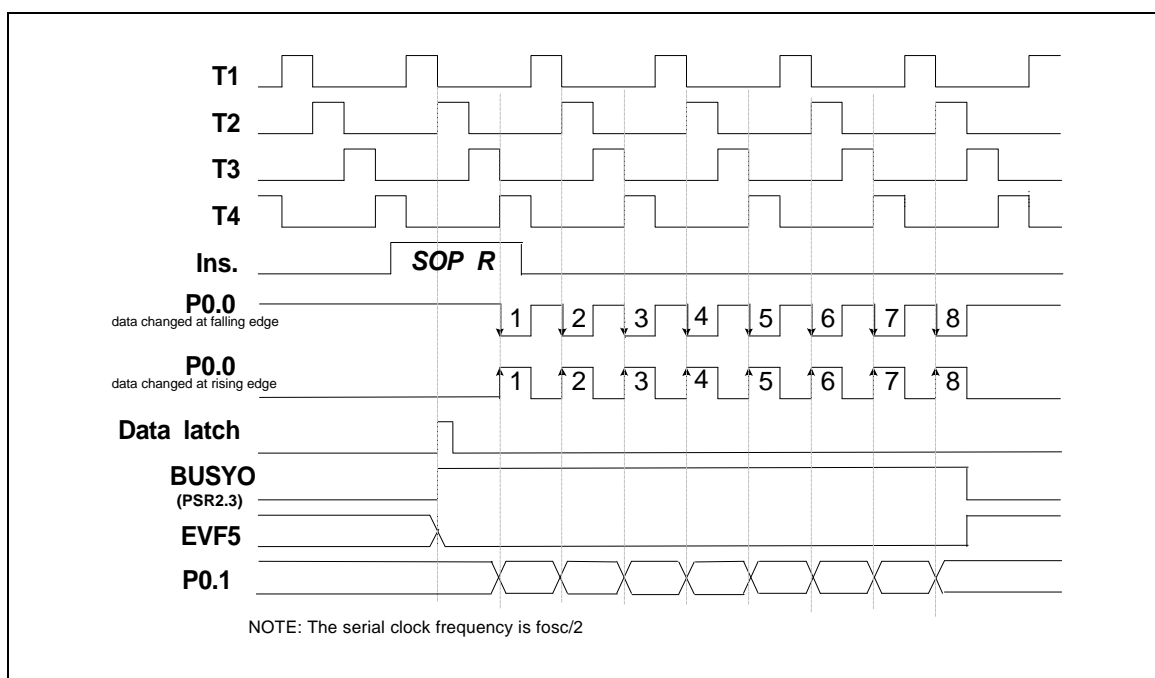

Figure 5-13 Timing of the Serial Output Function (SOP R)
- (2) When the **SOP R** instruction is executed, the data will be loaded to the serial output buffer (SOB) from ACC and the RAM, the low nibble data of SOB is from ACC register and the high nibble data is from RAM, and bit 3 of port status register 2(PSR2) will be set to "1" ( $BUSY_O = 1$ ). Then the P0.0 pin will send out 8 clocks or accept 8 clocks from external device and the data in SOB will be sent out at the rising or falling edge of the P0.1 pin. After the 8 clocks have been sent,  $BUSY_O$  will be reset to "0" and  $EVF.5$  will be set to "1." At this time, if  $IEF.5$  has been set ( $IEF.5 = 1$ ), an interrupt is executed; if  $HEF.5$  has been set ( $HEF.5 = 1$ ), the hold state is terminated. Users can check the status of PSR2.3 ( $BUSY_O$ ) to know whether the serial output process is completed or not. If a serial output process is not completed, but the **SOP R** instruction is executed again, the data will be lost. The timing is shown in Figure 5-13.